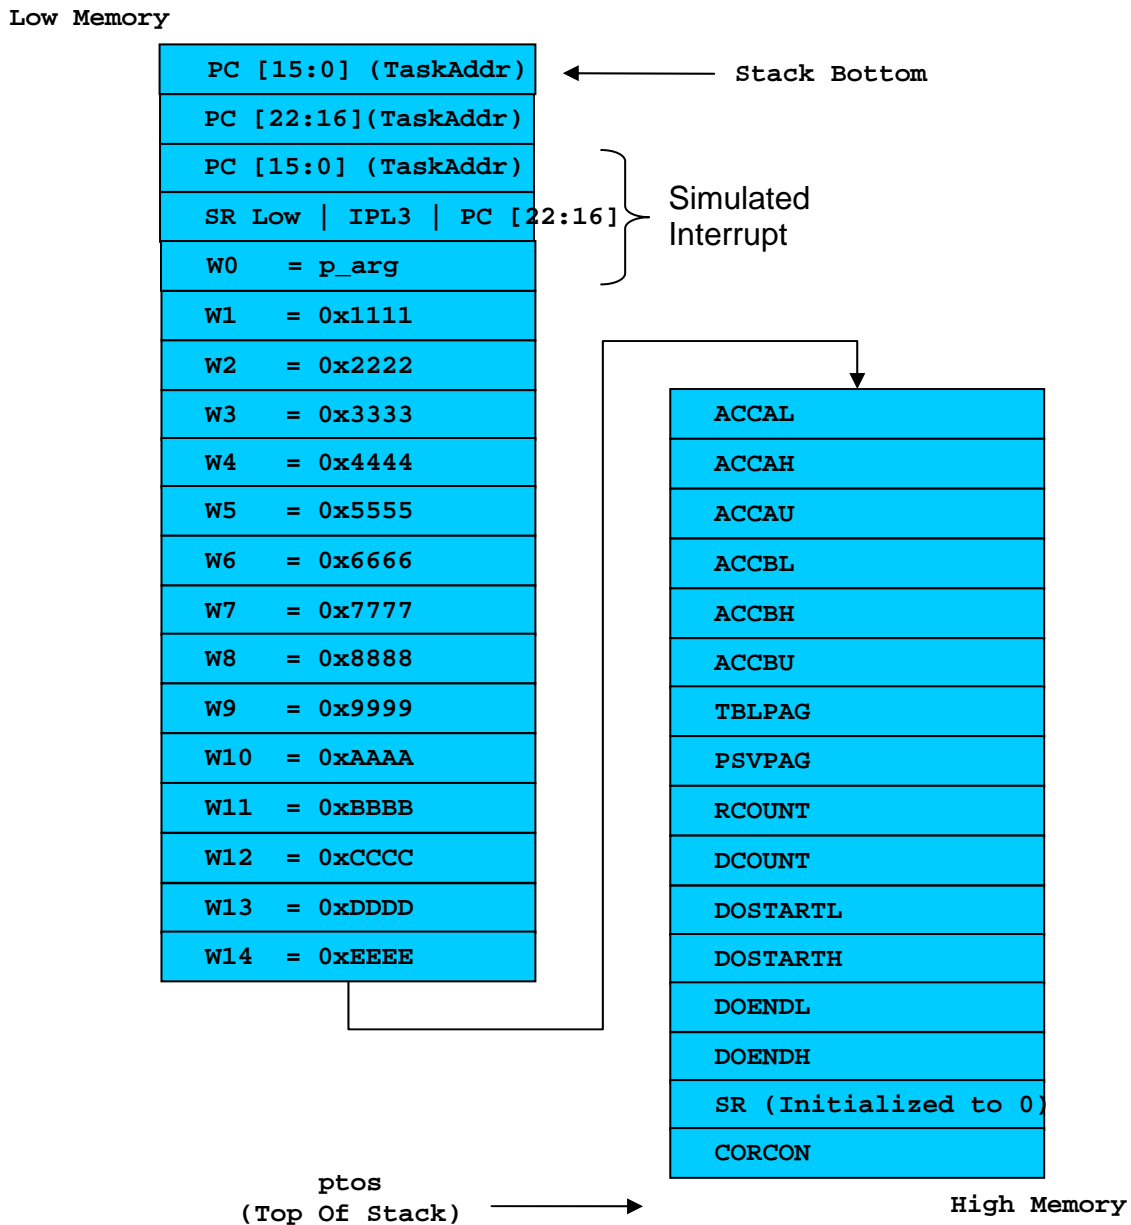

Figure 3-1, The Initial Stack Frame for each Task.
Figure 3-1 shows how the stack frame is initialized for each task when it's created.
- L3-18(1) Before starting the highest priority task, we call OSTaskSwHook() in case a hook function has been declared (see OS_CPU_C.C).
- L3-18(2) The µC/OS-II flag OSRunning is set to TRUE indicating that µC/OS-II will be running once the first task is started.
- L3-18(3) We then get the pointer to the task's top-of-stack (was stored by OSTaskCreate() or OSTaskCreateExt()). See figure 3-1 (ptos is stored in the OS_TCB of the created task).
- L3-18(4) We then pop all the registers from the task's stack. This is done by calling an assembly language macro which is declared in OS_CPU_UTIL_A.S and will be described later.
- L3-18(5) By executing a return from interrupt instruction, the dsPIC33 pops the PC and the STATUS register from the stack and thus, the dsPIC33 will start executing the task's code.